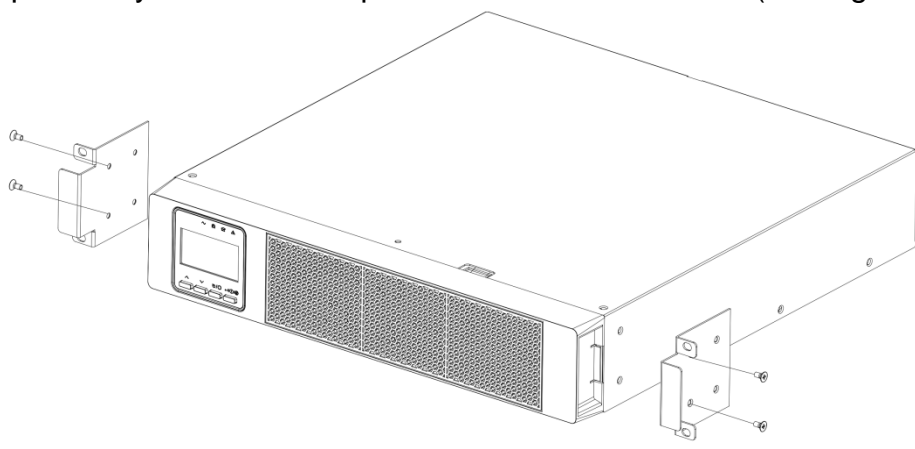

Figure 41: Install the Mounting Bracket MBS
38. Align the mounting brackets with the screw holes on each side of the MBS and secure with the previously removed Phillips Flat Head M4x8 screws (see Figure 41).